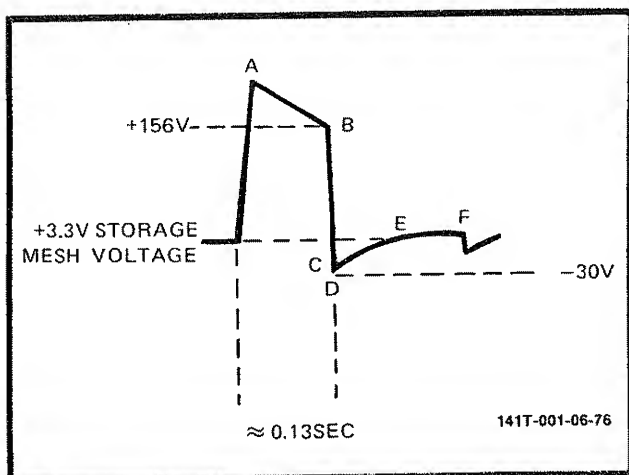

Figure 4-5. Erase Functional Waveform
4-49. When operating in the STD mode, at the instant the ERASE pushbutton is pressed, figure 4-5 point A, the following actions take place simultaneously:
e. When A5C8 voltage decreases to -12.6 volts, A5Q3 turns off (figure 4-5 point F), and the output pulser returns to the quiescent voltage of approximately 3.3 volts. A5Q20 and A5Q21 stop running and the collimator voltage returns to the nominal value.